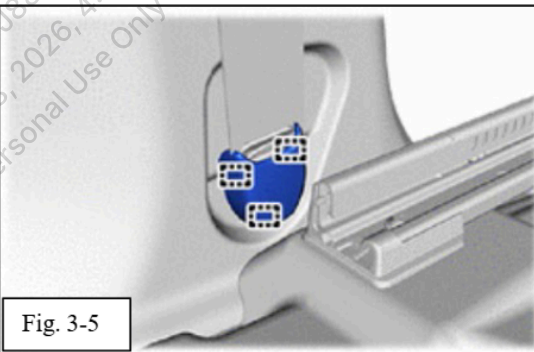

Fig. 3-5
- (f) Remove the LH seat belt lower anchor on the B-Pillar (Fig. 3-5).